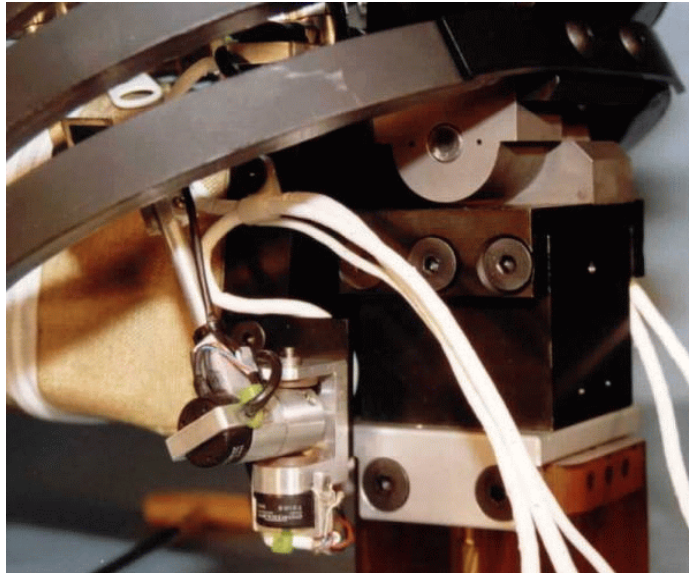

Figure 7.17- Wire routing for the CRUX and mid sternal accelerometer cables
23. Bundle the instrument wire from the mid-sternal uniaxial accelerometer with the upper abdomen uniaxial accelerometer wire. Pass the wires around the left side of the spine. Secure it into the wire clamp, located on the upper abdomen assembly, used to fasten the upper and lower left CRUX wires, as shown in **Figure 7.17**. The cables are routed out the left side of the dummy to join the bundle of cables running down the spine.